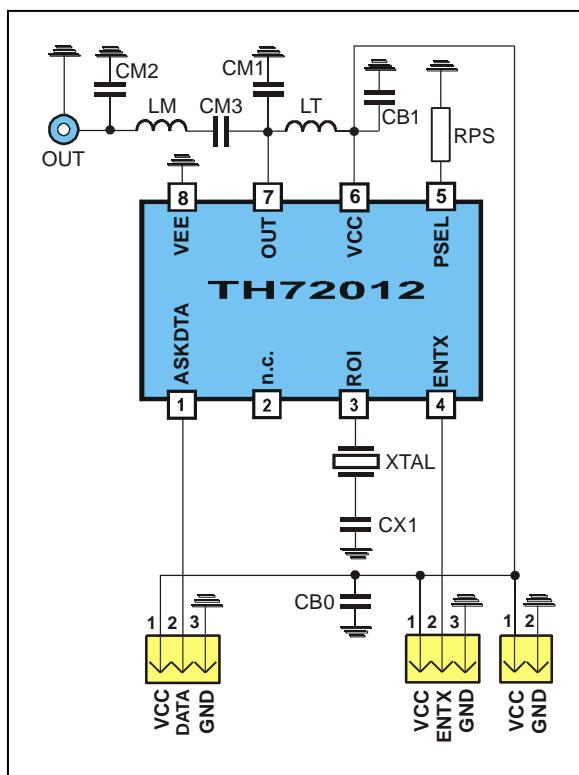

Fig. 17: Test circuit for ASK with 50Ω matching network
- Data according to test circuit in Fig. 17
6.1. Test circuit component list to Fig. 17